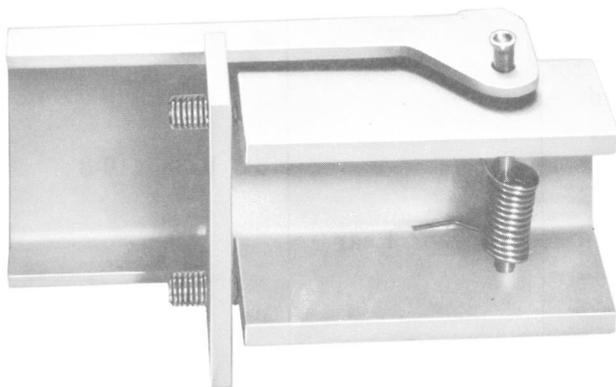
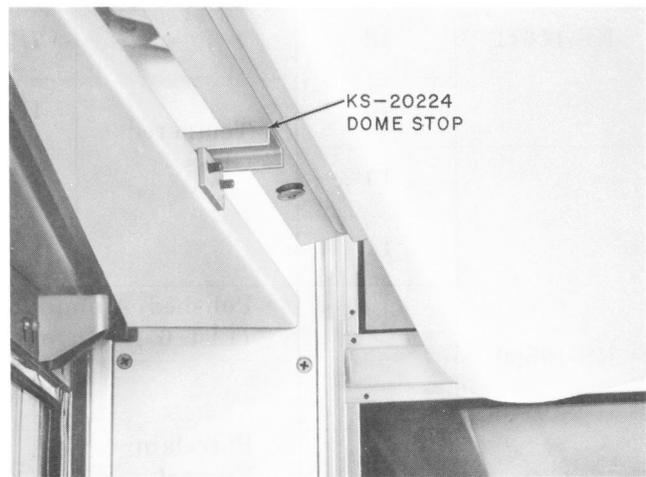

Fig. 2—KS-20224 Dome Stop
Fig. 3—KS-20224 Dome Stop, Installed
**2.09** A KS-20224 dome stop (Fig. 2), a spring loaded device, is available to mount along the door track (Fig. 3) to prevent the dome from falling when the fasteners are released.